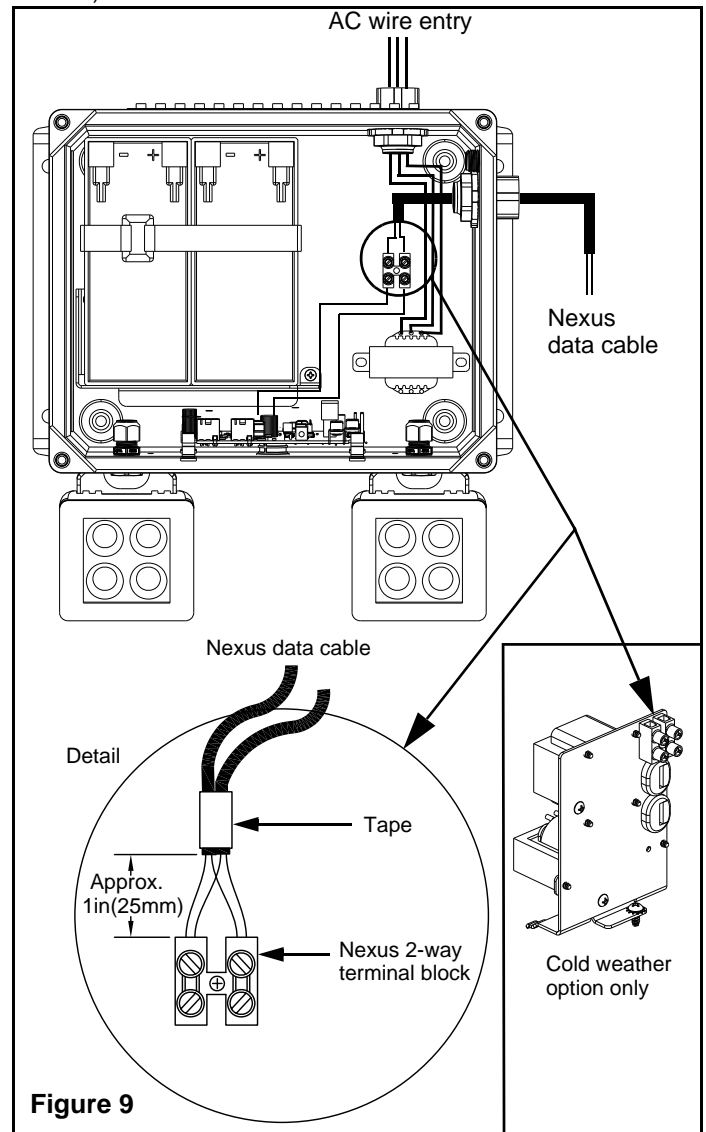

Figure 9
- b. NEXUS wired (-NEX): remove the bushing located on the side of the unit and install the conduit fitting rated for Class 1 Div 2 (provided) into the open hole. Thread the Nexus data cable conduit tightly into the conduit fitting ensuring a water-tight seal. If necessary, seal with silicone or equivalent caulking (not provided) to prevent water leaking into the cabinet. Route the Nexus data cables into the unit through the conduit and hub and strip 1 in(25mm) of the double insulation (see detail in figure 9). The two cables are identical and both contain 2 wires of different colors: color A and color B. Gather the color A wire from each cable, and connect them to the same pole on the terminal block. Gather the color B wire from each cable, and connect them to the other pole on the terminal block. The result must be 2 wires of the same color in each pole on the terminal block (see details in figure 9).